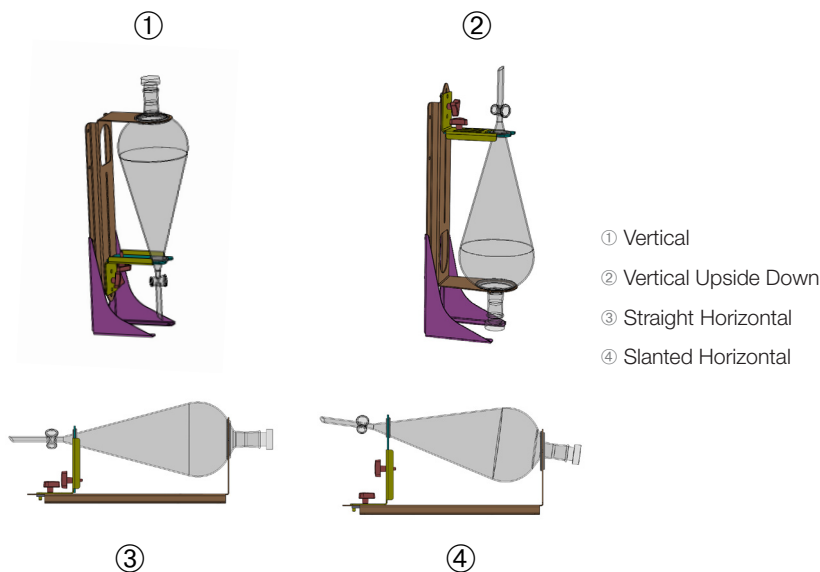

Figure 92: Separatory Funnel Clamp Mounting Positions
The horizontal position ③ in Figure 92 can be adjusted in height to obtain the slanted orientation shown at ④. Additionally, the separatory funnel clamp can be combined with the vertical stand (supplied as an accessory) to create the vertical arrangements shown at ① and ②. Also, the clamp can be installed with the funnel tap facing downwards ① or reversed to obtain the upside down configuration shown at ②.
1. Fit the separatory funnel clamp to the long end of the vertical mount, as shown in ① and ② of Figure 92.